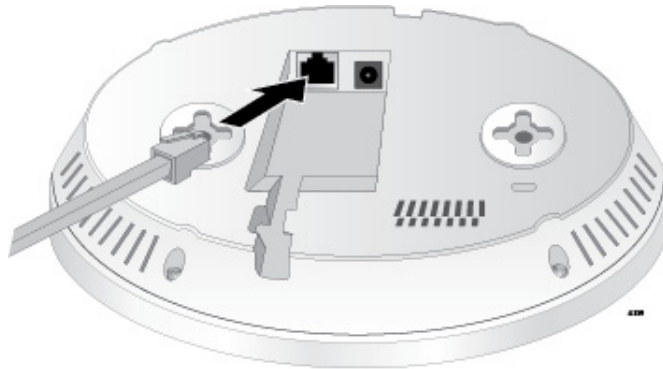

Figure 29. Connecting the LAN Cable
1. Connect the RJ-45 plug into the LAN port as shown in Figure 29.